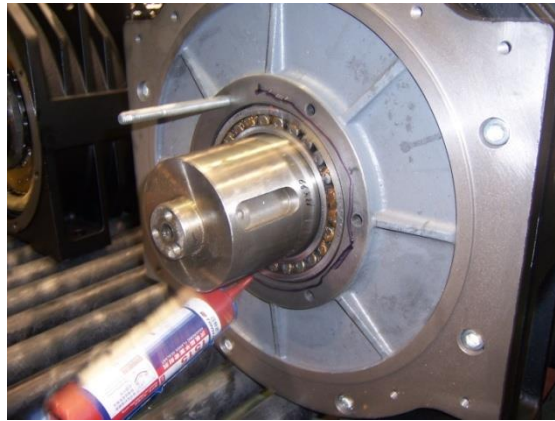

Figure 86: Apply sealant on Front cover surface
7. Clean the outer cover, coat the sealant on the Front cover surface which mates with the Outer cover surface. See Figure 86.